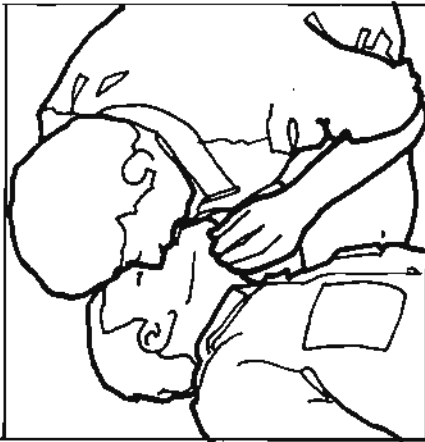

Figure 12-1(e). Give two quick, full breaths.
* Tightly seal the victim's mouth with your mouth and give two quick, full breaths (Figure 12-1 (e)).